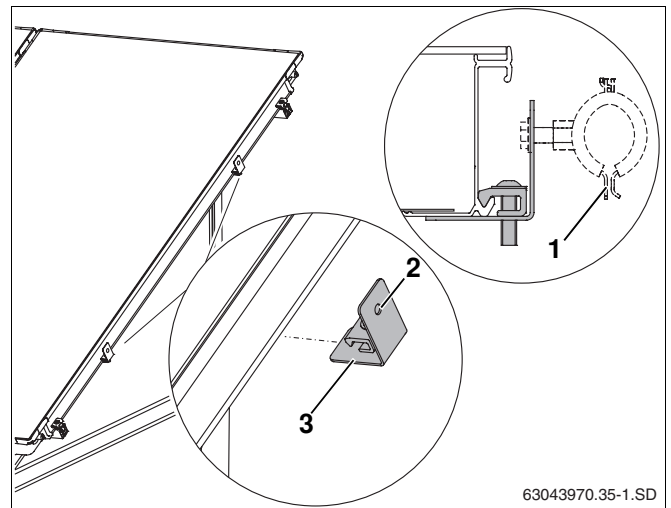

Fig. 56 Fastening holder to the collector frame
We recommend commercially available hose clamps (Fig. 56, **Item 1**) for fastening the header to the M8 thread on the holder (Fig. 56, **Item 2**).
- Place holder (Fig. 56, **Item 3**) onto collector frame and tighten with size 5 spanner.